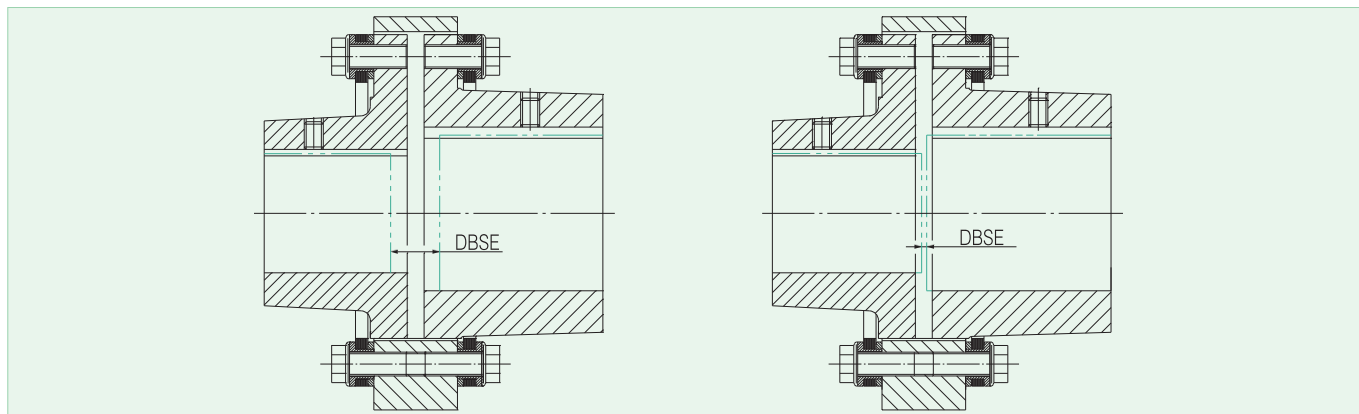

Fig.3 Hub position on the shaft can be adjusted
- c. Check up the distance between shaft ends (DBSE) with the allowable DBSE range of the coupling type selected. LJQ is a standardized design coupling, the distance between two hub flanges has a fixed design of 5 or 10mm. The hub position can be adjusted according to the actual DBSE, but it should never exceed the max. value allowed. (see fig.3)